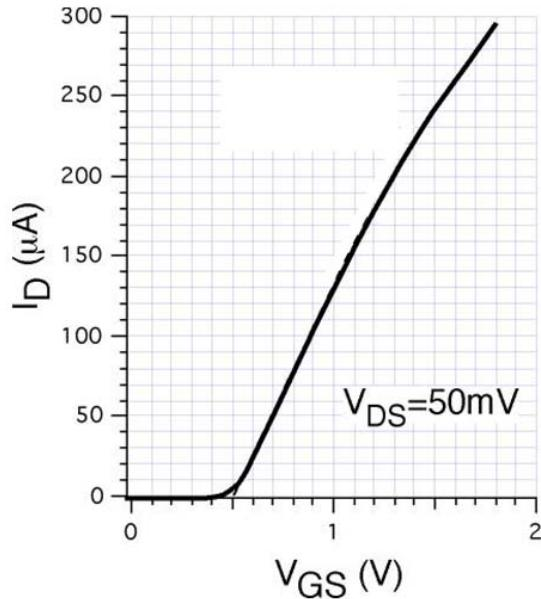

Figure 3: $I_D - V_{GS}$ characteristic of an NMOS
- [c] Figure 3 shows the I_D - V_{GS} characteristic for an NMOS with $V_{DS}=50$ mV. It is known for this device that $W=10\mu\text{m}$, $L=0.5\mu\text{m}$, and $t_{ox}=5$ nm.